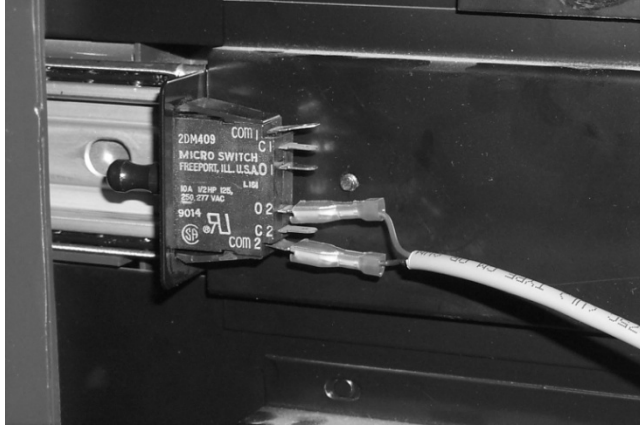
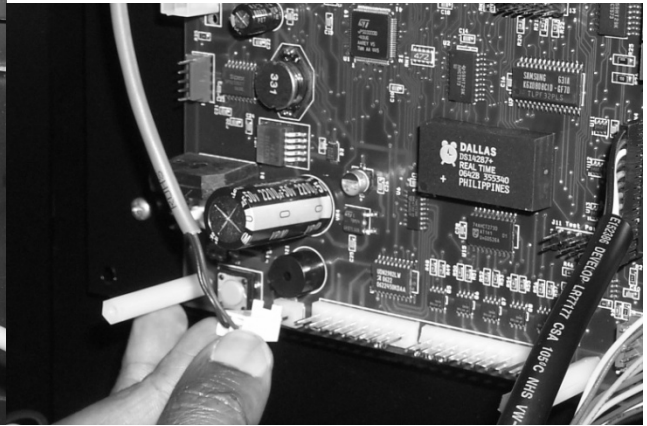

Figure 18
Figure 19
15. Connect door cable (11-0214-21) to the door switch. Red wire to “O 2” tab and Black wire to “COM 2” tab as shown in figure 18, plug the other end of this cable to the “Door SW” header (J8) on VMC board as shown in figure 19 **orientation (wire color) does not matter at this end.**